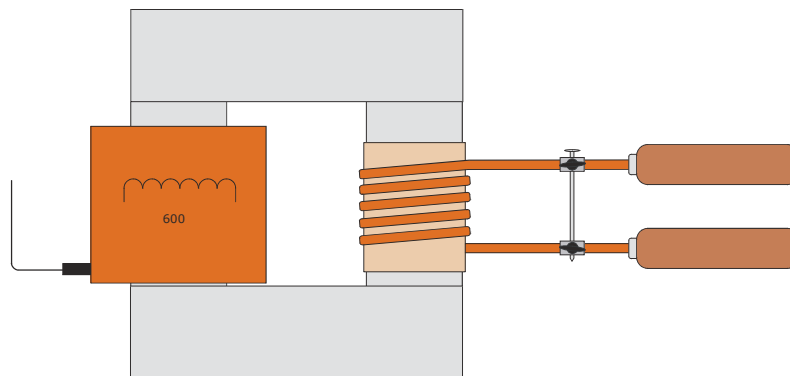

Fig. 2 Experiment for melting a nail
- Set up the high-current transformer as shown in Fig. 2 and place it on a heat-resistant surface.